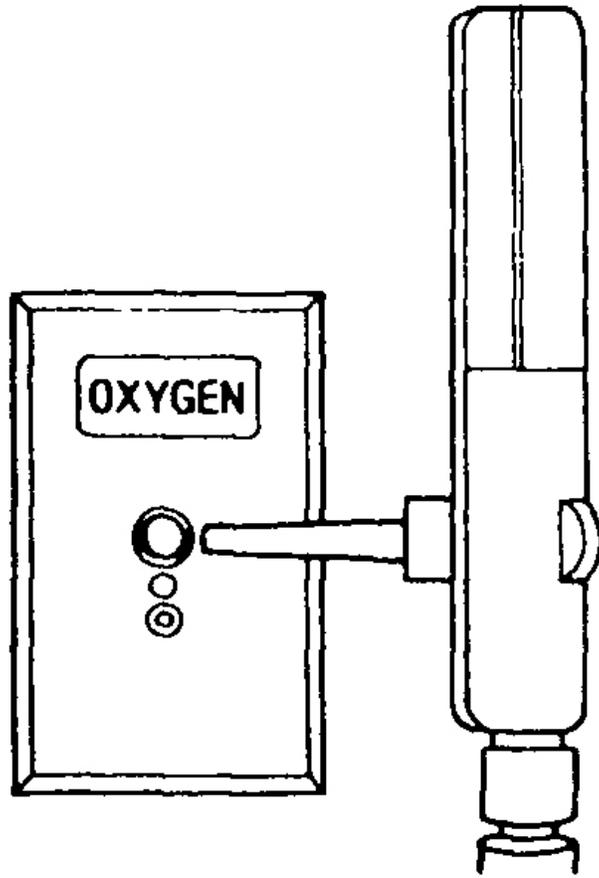

Figure 3-16. Attaching flow meter to "quick connect" coupler.
(3) Distilled water. One liter of distilled water will be needed for the humidifier.
(4) Delivery device. Obtain the packaged nasal prongs or face mask as per physician's order or supervisor's directive.
f. **Attach Flow Meter to Wall Unit**. Close or turn the flow-adjusting valve of the flow meter to the "off" position. (Closing or turning the flow adjusting valve/dial to the "off" position will prevent damage to the gauge caused by a sudden influx of oxygen under pressure.) Insert the flow meter adapter into the opening of the oxygen outlet (figure 3-16) and press until a firm connection is made. You will hear a small "hiss" when the connection has been made.